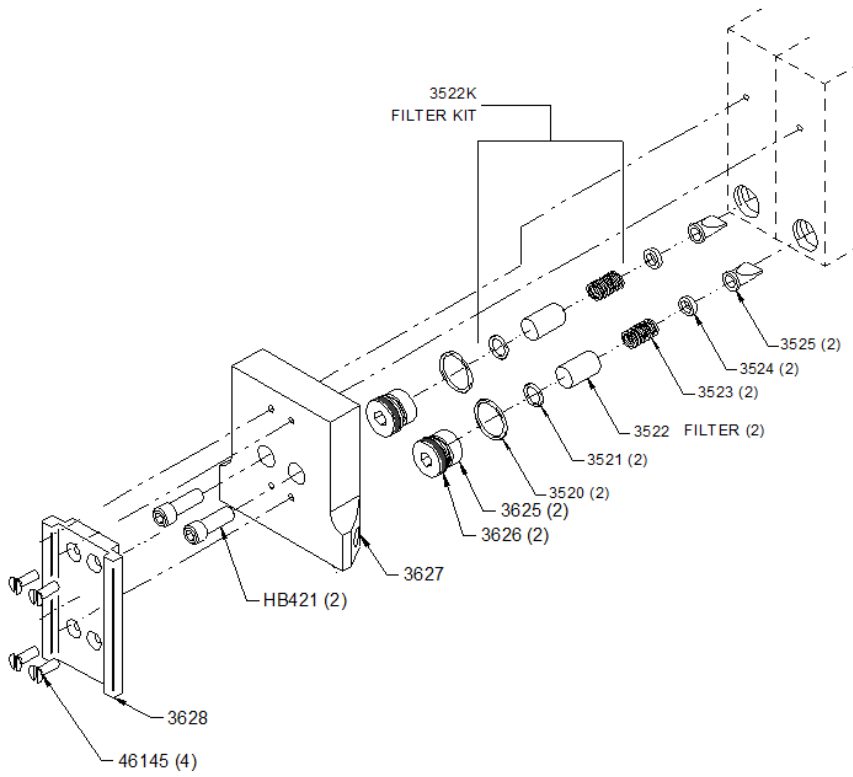

Figure 3
- Replace the internal sintered stainless-steel filters (Sechrist P/N 3522K in Figure 3) at least every 6 months or as needed.